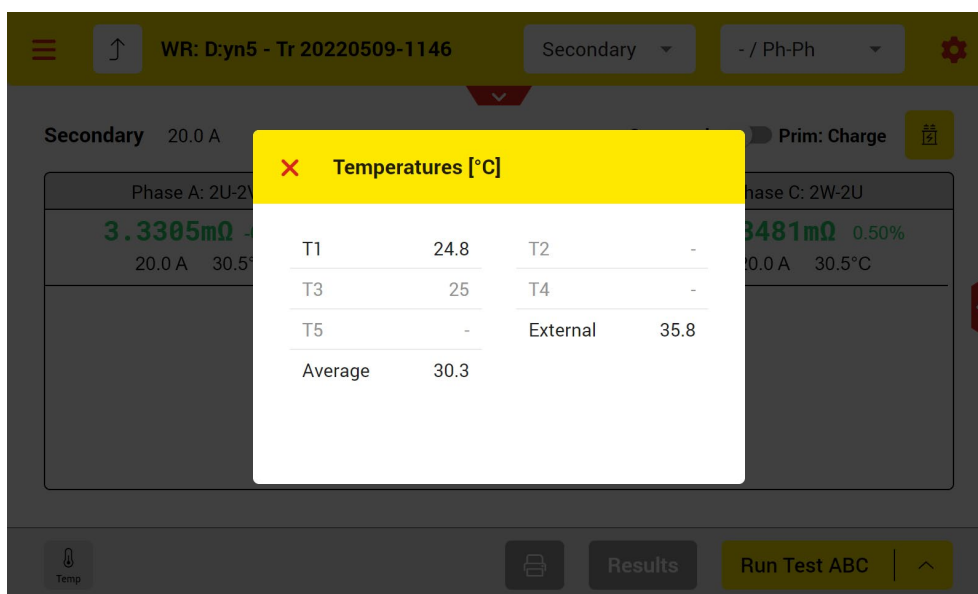

Figure 59: Actual Temperature values
- 16 To see the actual measurement value of each temperature measurement channel (See Figure 59)
In the live temperatures window (Figure 59) which can be opened from the bottom-left corner of the measuring screen, you can see the actual temperature values. Here T1 is plugged in and also activated in the setting. T3 is not activated but plugged in. If a temperature channel is activated but not plugged in, the mini-ATOS will display an error message after starting the measurement.